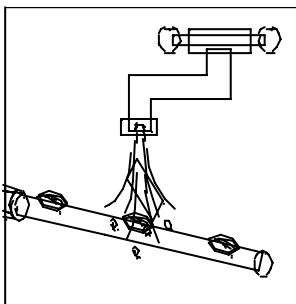
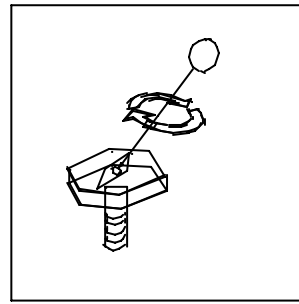

Figure 21
Figure 22
- The nozzles are not blocked. Clean if necessary and put them back properly (Figure 21 and Figure 22).